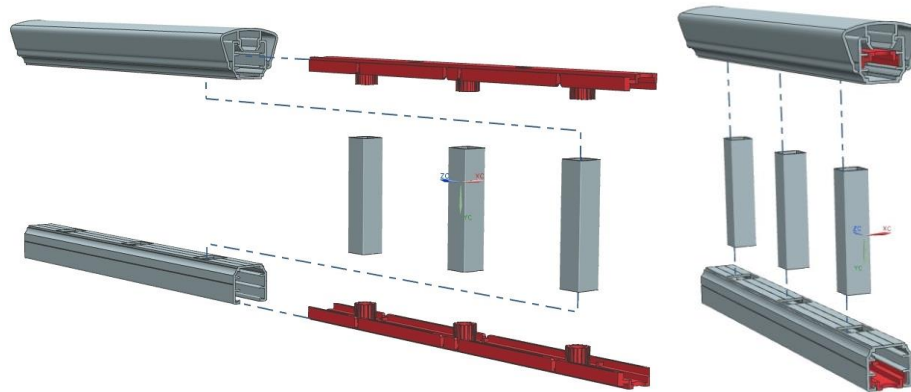
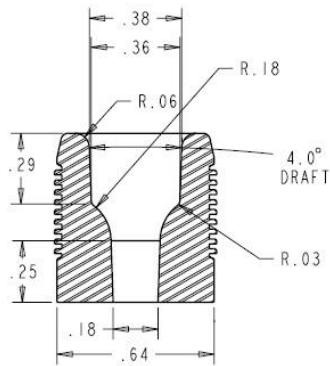

Figure 5 – *Ultra Max & Deck-Over Aluminum Railing System*
Figure 12 – HDPE Connectors for Ultra Advantage & DekPro balusters (For top and bottom rails)
3.6.3. The *Ultra Max* and *Ultra Deck-Over* guardrails utilize a 1-1/8 inch wide by 3/4 in high HDPE strip inserted into the *Ultra Max* Rail A top & inverted Rail A bottom routed rail profiles. The connectors on the HDPE strip drop through routed holes in the rail allowing the balusters to friction connect to the HDPE strip. See Figure 5 which shows the HDPE insert and its location in the routed aluminum railings.
5.2. Infill aluminum balusters are inserted onto 0.66 inch diameter HDPE plugs for the *Ultra Advantage*, *DekPro Prestige*, and *Coastal Aluminum* railing systems. See Figure 12. For the *Ultra Max* and *Ultra Deck-Over* railing systems, the balusters are installed onto a 1-1/8 inch wide by 3/4 inch high HDPE strip inserted into the top and bottom routed rails. See Figures 5.